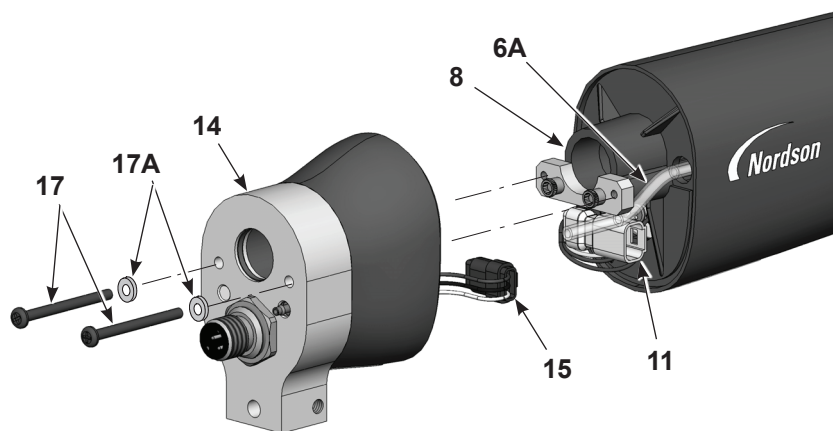
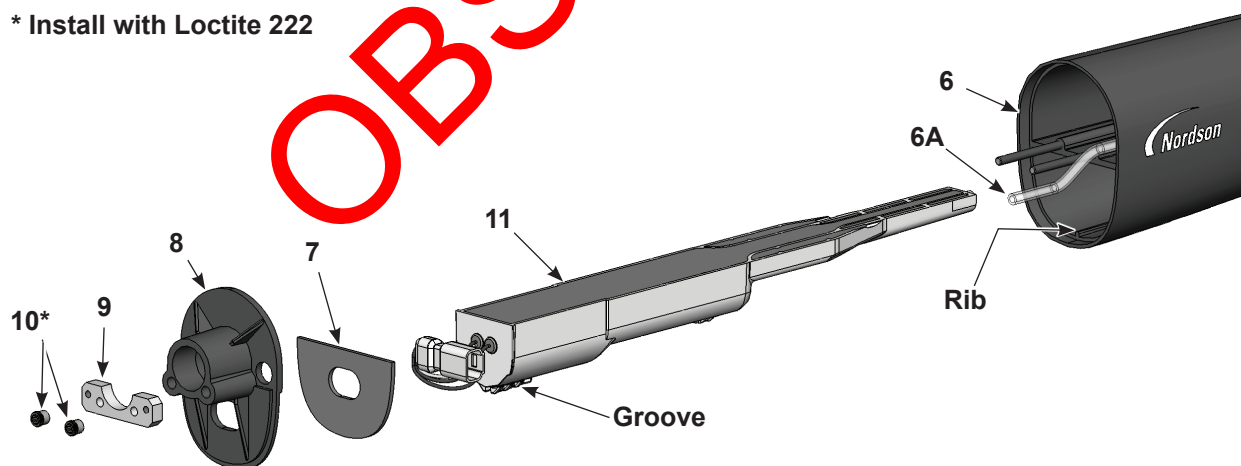

Figure 7-7 Bar-Mount Spray Gun Disassembly 1 of 3
Figure 7-8 Bar-Mount Spray Gun Disassembly 2 of 3
2. See Figure 7-7. Remove the two socket-head screws (17) and lock washers (17A) from the rear body assembly (14).
3. Carefully pull the rear body assembly far enough off the bulkhead (8) to disconnect the power supply harness (11) from the receptacle harness (15); and the filter assembly tubing (16) from the barbed fitting inside the rear body assembly.
4. See Figure 7-8. With a 1/8-in. hex key, remove the two Allen nuts (10) and screw plate (9) from the bulkhead (8). Then remove the bulkhead from the spray gun body (6), feeding the power supply harness through the bulkhead.
5. Slide the power supply (11) out of the spray gun body.
7. The gasket (7) is attached to the bulkhead with pressure sensitive adhesive. If the gasket is damaged, replace it with a new one.
1. See Figure 7-8. Install the power supply (11) into the gun body (6), making sure the gun body rib fits into the groove on the power supply. Seat the power supply firmly into the gun body.
2. Feed the power supply harness through the bulkhead, then install the bulkhead (8) and screw plate (9) over the gun body studs. Apply Loctite 222 to the Allen nuts (10), then install the nuts on the studs and torque them to 0.45 N•m (64 inch-ounces) with a 1/8-in. hex key.
3. See Figure 7-7. Connect the receptacle harness (15) to the power supply harness (11). Tuck the harness connectors (11, 15) into the rear body assembly in the positions shown.
4. Connect the clear filter tubing (6A) to the barbed fitting on the inside of the rear body assembly (14). Feed any extra clear air tubing into the gun body, then install the rear body assembly onto the bulkhead with the screws (17) and lock washers (17A).